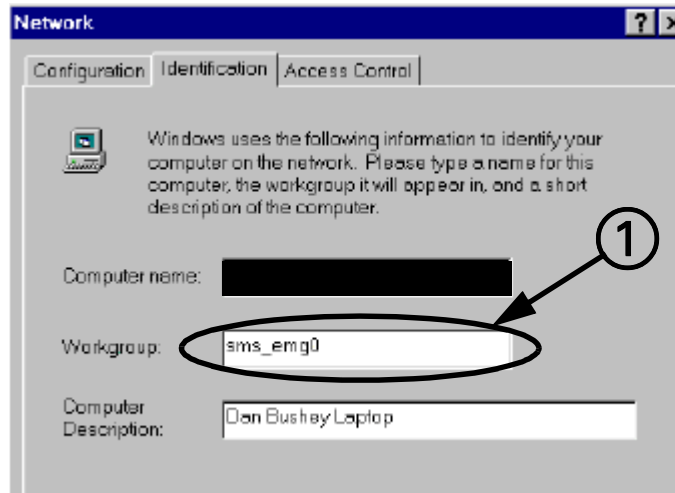

Figure 14-6 Network Window
11. At "Network" window (see Figure 14-6) click on *Identification* Tab.
13. Type Domain Name (See Domain Name box in Table 6-4.) into Workgroup box (① in Figure 14-6), and click on *OK*,